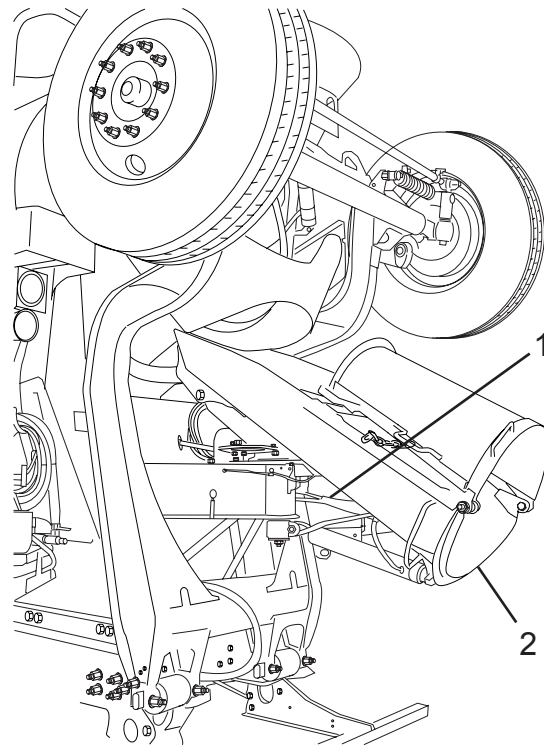

Figure 78
2. While holding the chute, pull down on the lever (Figure 78, Item 1) and move it to the right or left until the lever is seated in one of the lock positions.
3. Move the main chute (Figure 78, Item 2) to the desired position, and while holding the chute, move the lever to the center. Make sure the lever pin is fully seated into one of the holes in the chute plate before releasing the chute. Move the chute from side to side as needed to align the pin and hole.